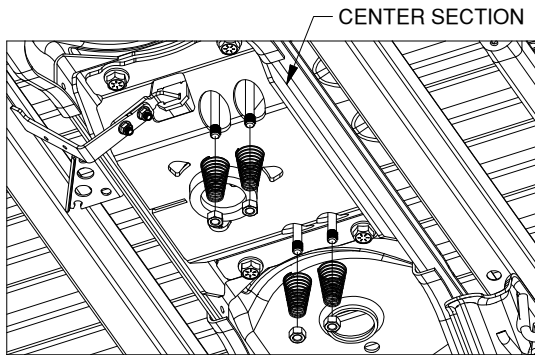

FIGURE E1: View looking up at center section.
3. **Add springs.** Place a conical spring over each leg of the U-bolts and secure with a 1/2" lock nut, see Figure E1. Tighten the lock nut until the nut is flush with the end of the U-bolt.